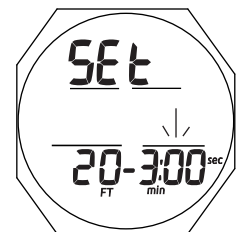

Fig. 50 - SET SAFETY STOP (Time then Depth)
Set Safety Stop (SS), information includes (Fig. 50):